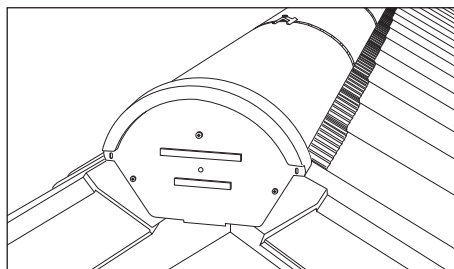

Fig. 10
- 10 Repeat this process along ridge line, ensuring screws are not over-tightened. The ridge line should be finished with a full-length ridge tile. The minimum length of any cut ridge tile should be no less than 250mm (Fig. 10).